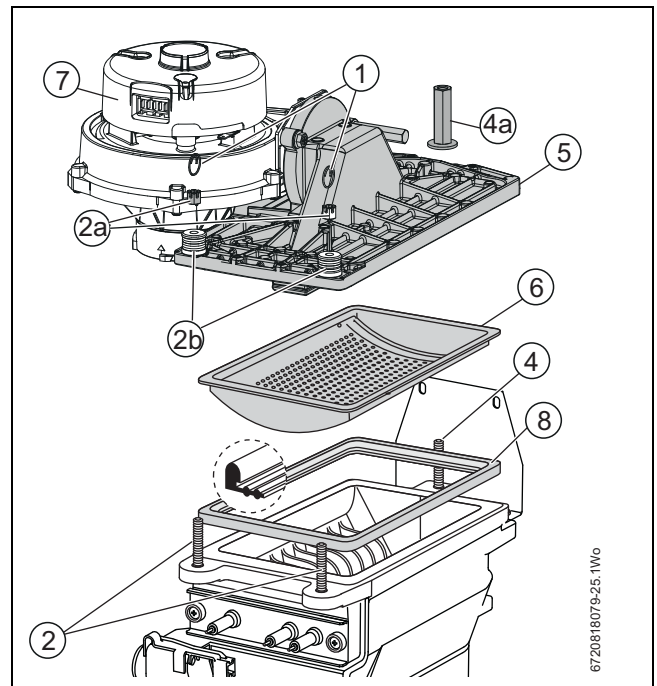

Fig. 45 Burner removal
- ▶ Refer to figure 45 and re-assemble the burner in reverse order
- ▶ Assemble the washers/ spring [2b], and castellated nuts [2a], refer to figure 45, on to the studs [2] to secure the burner cover to the heat exchanger.